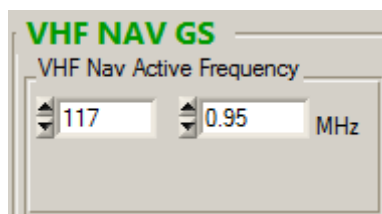

Figure 14 Tuning NAV Frequency
- 4) Connect a 117.950 MHz signal with 1 KHz 30% AM RF Level -109dBm from the signal generator to the NAV antenna port. Adjust the radio to Channel 117.950 MHz (Figure 14). Monitor SINAD of the NAV audio on the audio analyzer, reading should be more than 6dB.